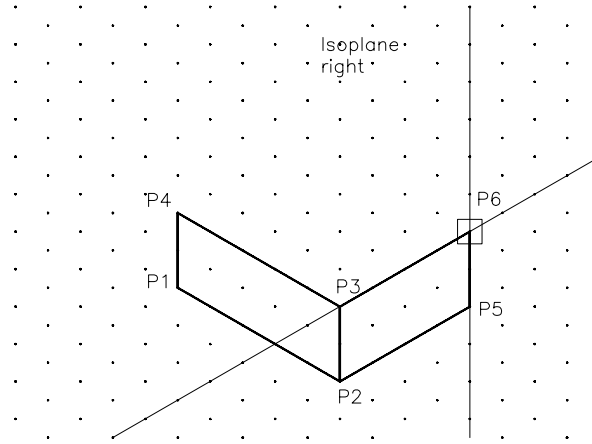

Figure 21-10 Drawing the bottom right face
3. Change the isoplane to isoplane right by pressing the F5 key. Invoke the **L**INE command and draw the lines as shown in Figure 21-10.